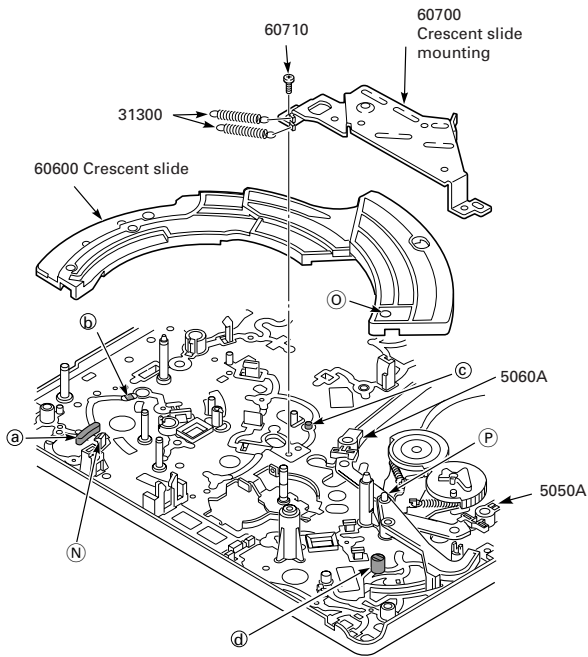
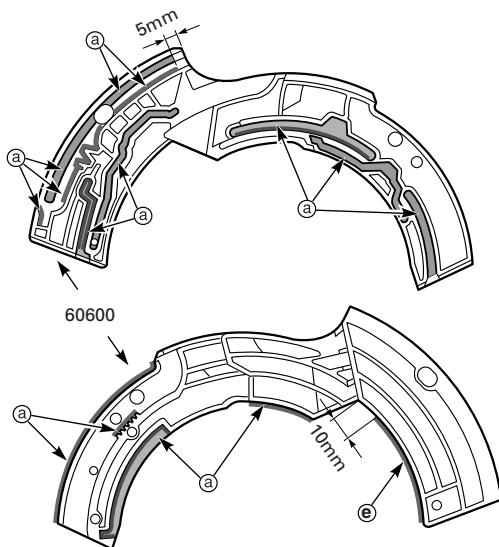

Fig. 8.23
Fig. 8.24
- Undo screw (60710) and remove the crescent slide mounting (Pos. 60700, Fig. 8.23).
- Disengage the clamp (N) and remove the crescent slide (60600, Fig. 8.23).
Before reassembling the crescent slide (60600) the threading roller units (5050A and 5060A) are to be positioned so that they are in **Eject** mode (Fig. 8.23). When fitting it, lift the right side of the crescent slide (60600) slightly, insert the left side into the clamp (N) first, and align the hole (O) with the pin (P) of the tension arm (40400).
- For lubricating the crescent slide (60600) use exclusively the lubricant **75988 061 7800** for the lubricating points (a), (b), (c), (d) in Fig. 8.23 and (e) in Fig. 8.24. For the lubricating point (e) in Fig. 8.24 use the lubricant **75988 061 8000**.